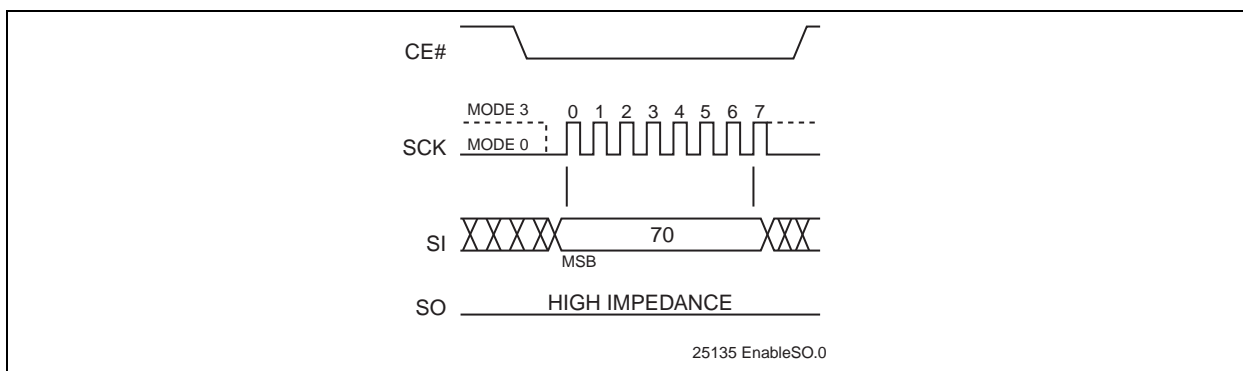

FIGURE 4-6: ENABLE SO AS HARDWARE RY/BY# DURING AAI PROGRAMMING
The Hardware End-of-Write detection method eliminates the overhead of polling the Busy bit in the Software Status Register during an AAI Word program operation. The 8-bit command, 70H, configures the Serial Output (SO) pin to indicate Flash Busy status during AAI Word programming. (see Figure 4-6) The 8-bit command, 70H, must be executed prior to initiating an AAI Word-Program instruction. Once an internal programming operation begins, asserting CE# will immediately drive the status of the internal flash status on the SO pin. A '0' indicates the device is busy and a